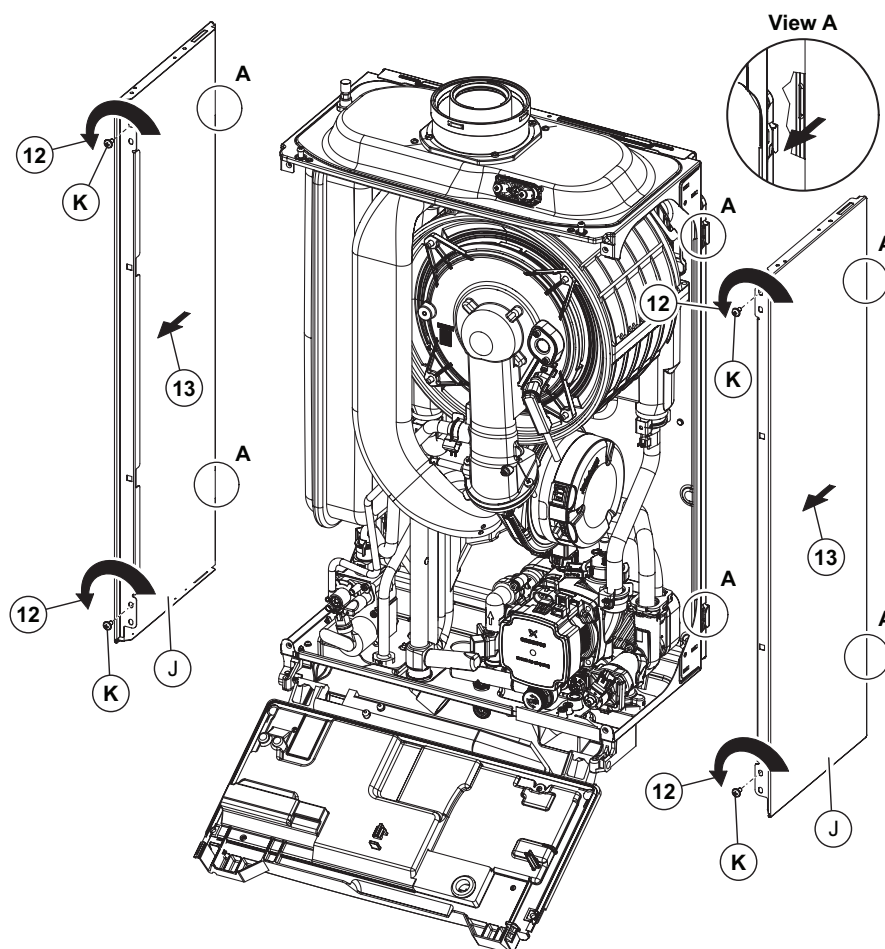

Fig. 7.5
Side panels - Fig. 7.5
13. Lift the side panel and pull it forwards unhooking it from the rear panel (view 'A' in Fig. 7.5) Lower the panel out and away from the top cover.
7.3 PREPARE FOR SERVICING - Fig. 7.5